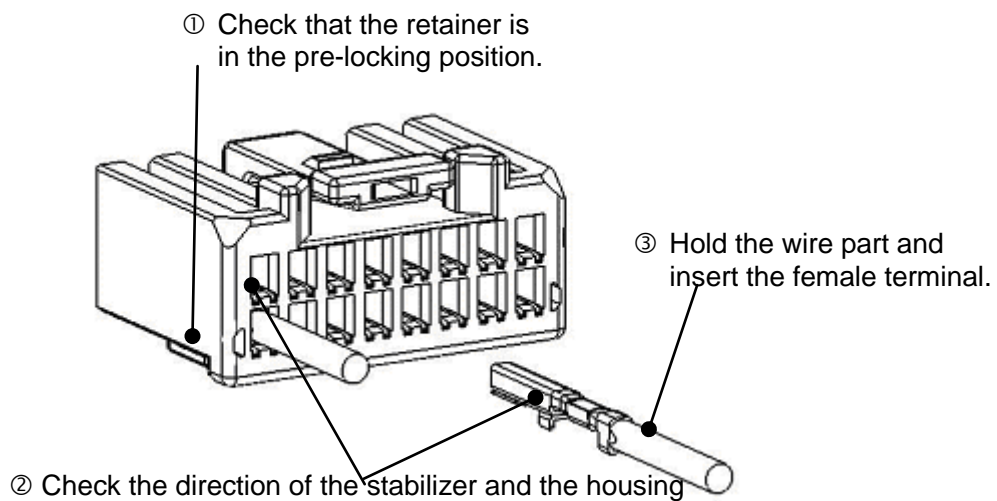

Fig.14: Inserting the female terminal into the housing
- ① Check that the retainer is in the pre-locking position. (Fig.14)
- ② Check that the direction of the female terminal is proper. (Fig.14)
- ④ Pull the wire softly to check that the terminal is completely inserted into housing. (Fig.14)